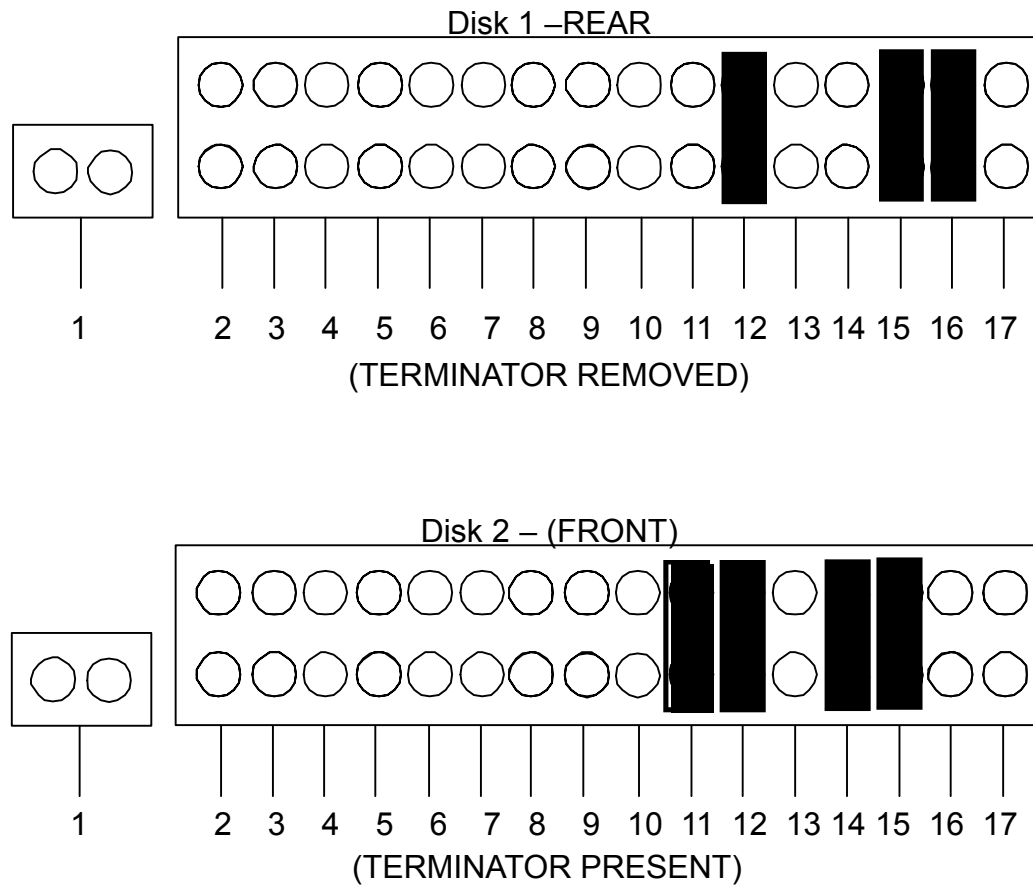

FIGURE 417 ACQIMAGE DISK DRIVE CONFIGURATIONS
1. Ensure the drive is configured properly, according to Figure 417.